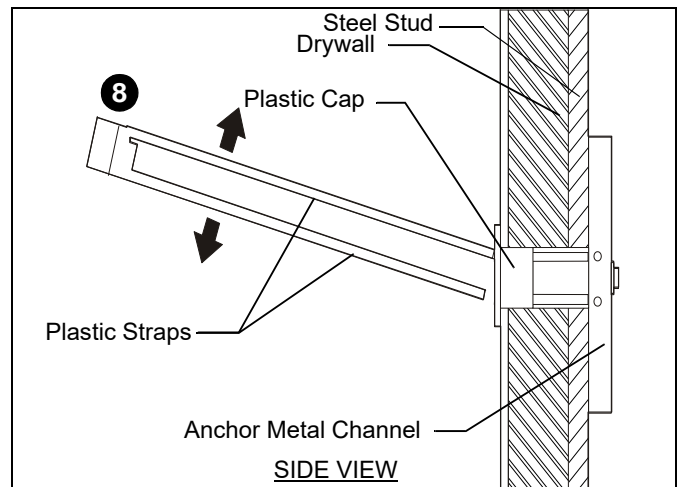

Figure 22
8. Snap off plastic straps on anchor at wall by pushing side to side, snapping off straps level with flange of plastic cap. (See Figure 22)